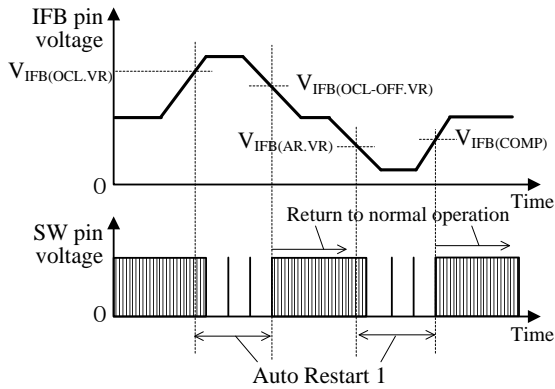
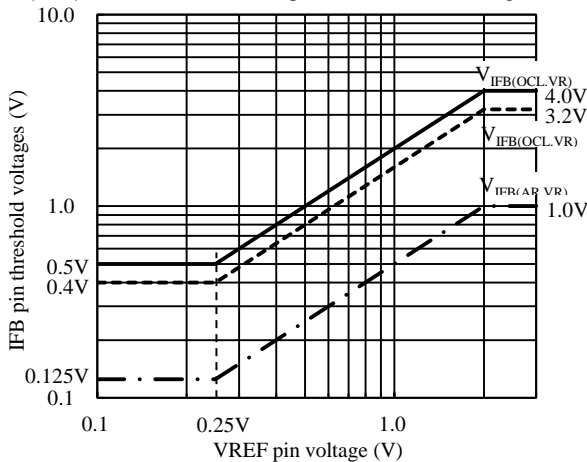

Figure 8-19 IIFB pin threshold voltage and Auto Restart 1 operation
Figure 8-20 VREF pin voltage versus IFB pin threshold voltages
As shown in Figure 8-19, IFB pin has two types of threshold voltage. These threshold voltages depend on the VREF pin voltage, as shown in Figure 8-20.
When the FB pin voltage increase to $V_{IFB(OCL.VR)}$ in Figure 8-20, or more, the operation of the IC switches to Auto Restart 1. When the fault condition is removed and the IFB pin voltage decreases to $V_{IFB(OCL-OFF.VR)}$ in Figure 8-20, or less, the IC returns to normal operation automatically.
When the FB pin voltage decrease to $V_{IFB(AR.VR)}$ in Figure 8-20, or more, the operation of the IC switches to Auto Restart 1. When the fault condition is removed and the IFB pin voltage increases to above $V_{IFB(OMP)}$, the IC returns to normal operation automatically.
- (1) When the IFB pin voltage is increased by the increase of LED current, COMP pin voltage is decreases. In addition, when the COMP pin voltage decreases to the COMP Pin Voltage at Oscillation Stop, $V_{COMP(OFF)} = 0.25$ V or less, the IC stops switching operation, and limits the increase of the output current. When IFB pin voltage is decreased by the decrease of LED current, COMP pin voltage increases. When COMP pin voltage becomes $V_{COMP(ON)} = 0.50$ V or more, the IC restarts switching operation.
- (2) When IFB pin voltage becomes $V_{IFB(OCL.VR)}$ or more (see Figure 8-20), the IC switches to Auto Restart 1.
- (3) The LED current increases further and when the IFB pin voltage increases to the IFB Pin Overcurrent Protection High Threshold Voltage, $V_{IFB(OCH)} = 4.0$ V or more, the IC switches to Auto Restart 2.
When the LED_OUT (+) or the IFB pin is open and the OVP pin voltage increases to the OVP Pin Overvoltage Protection Threshold Voltage, $V_{OVP} = 3.00$ V, the IC immediately stops switching operation. When the OVP pin voltage decreases to the OVP Pin Overvoltage Protection Release Threshold Voltage, $V_{OVP(OFF)} = 2.75$ V or the IFB pin voltage decreases to $V_{IFB(AR.VR)}$ in Figure 8-20, then the IC switches to Auto Restart 1.
When the LED_OUT (-) and the GND are shorted, and the IFB pin voltage decreases to $V_{IFB(AR.VR)}$ in Figure 8-20, then the IC switches to Auto Restart 1.
When the output current detection resistor (R15, R61), is shorted, the IFB pin voltage decreases. When the IFB pin voltage decreases to $V_{IFB(AR.VR)}$ in Figure 8-20, then the IC switches to Auto Restart 1.